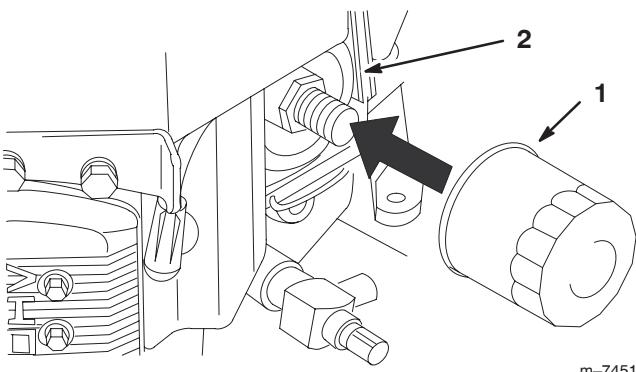

Figure 31
2. Remove the old filter (Fig. 31).